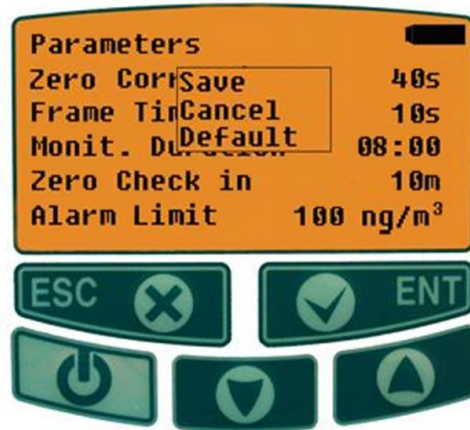

Fig. 2-5 – Save parameters dialog
- When the required values of all parameters are set, press the **Esc** button. The **Save parameters** dialog will be displayed over the **Parameters menu** window (Fig. 2-5). Three options are available: **Save** – to save all changes, **Cancel** – to reject all changes, **Default** – to restore default parameters.